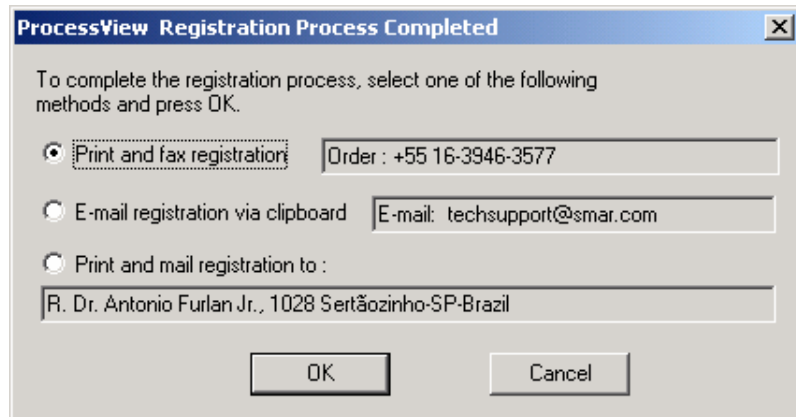

Figure 3.19.Registration Process Completed
24. Finally, the **ProcessView Registration Process Completed** dialog box is displayed, as shown in **Figure 3.19**. You may now choose which method you prefer to use to send your information to Smar.